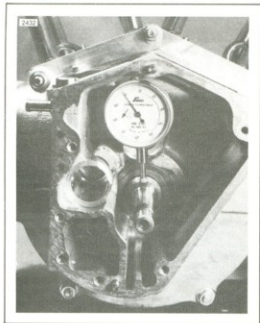

Figure 3-30. Checking Pinion Shaft Bearing
2. Inspect oil screen (4) carefully to make sure mesh is open. Fill screen with oil and watch for complete and even flow of oil through screen. Replace plugged or partially plugged screen.
4. Measure the small end of the cam shaft at the bearing surface and again near the cam lobes. If the shaft if worn more than .003 in. or is damaged in any way, replace both the cam and the needle bearing (35). See steps 8 and 9.
6. Inspect cam gear oil seal (34) in cover to see that lip is in good condition.
7. See Figure 3-30. Clean the pinion shaft bearing with contact cleaner and check the bearing clearance with a dial indicator. Mount the indicator with the probe perpendicular to the shaft and as close to the bearing as possible. If the clearance exceeds .002 in., the bearing must be refitted. See FITTING PINION SHAFT BEARING in the CRANKCASE section.
8. Inspect needle bearing (35) for wear, broken or gouged bearings. If end of cam shaft shows any appreciable wear (0.003 in. or more), needle bearing is probably worn to a point where replacement of bearing and cam shaft are advisable.